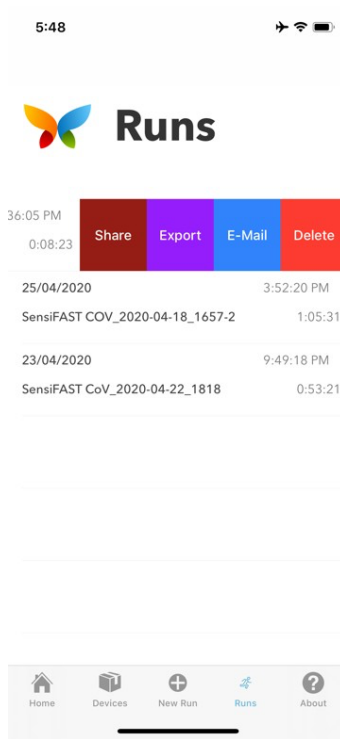

Figure 5: File options
- 1.1.8. If an upgrade is required, you will be given the option of backing up your data. Note: Updating the firmware does NOT delete protocols or past runs. This is simply for added safety. If you’d like to back up your run data before updating the firmware, select “Back Up My Data”. You will be taken to the Runs screen. Swipe right to left on any run and email it or upload it to iCloud. Repeat for all runs you wish to save (**Figure 5**).